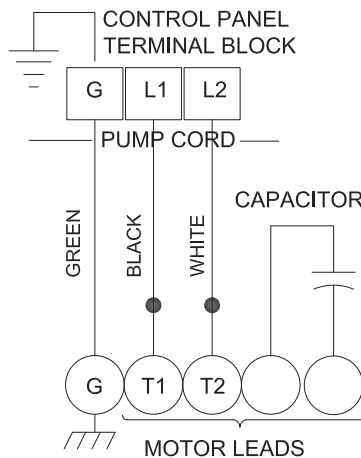

**Figure 4**
8. **On models PF 2094 & 2044**, place gland nut (23), one friction ring (24), grommet (25) and one friction ring (24) onto cord (22) and slide cord through hole in motor housing (4) (See Figure 4). Make wire connections per Figure 5.
9. **On models PFCSE 2024, 3024, 3094 & 3044**, place all motor leads above motor. Place o-ring (18) on seal plate (3) and lower motor housing (4) onto seal plate (3).
10. Place socket head screws (17) through seal plate into motor housing and torque to 60 inch pounds.